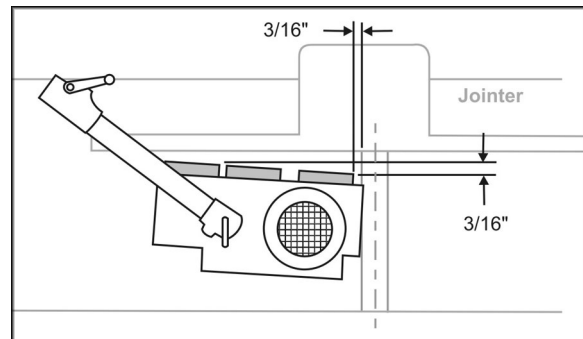

Figure 19
1. Mount the stock feeder on a jointer so that all rollers are over the outfeed table, as shown in Figure 19.
2. The infeed roller should be approximately $3/16''$ away from the lip of the outfeed table at the cutter area. See Figure 19.
3. Rotate the Stock Feeder so that the direction of feed is angled slightly toward the fence by approximately $3/16''$ (5mm); that is, the outfeed roller should be slightly closer to the fence than the infeed roller. See Figure 19.